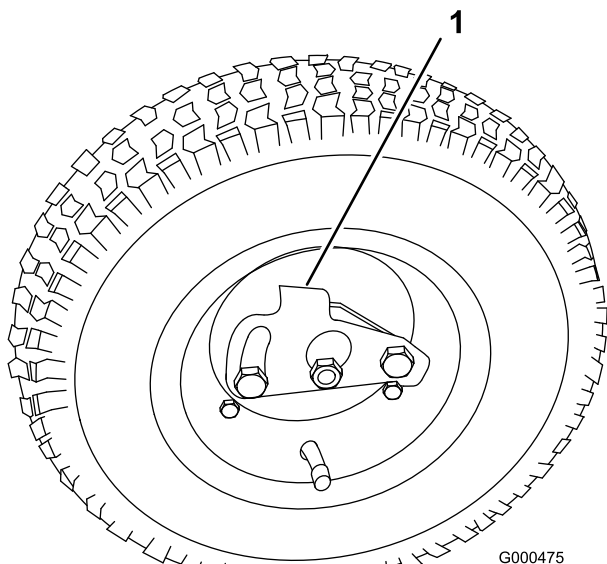

Figure 16
2. Press the wheel locking clip toward the center of the wheel and slide the wheel onto the hex shaft (Figure 16).